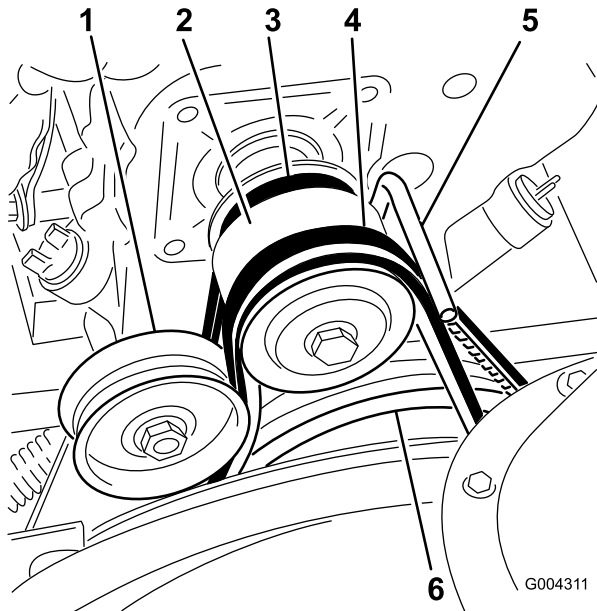

Figure 38
3. Loosen the belt guide (Figure 38).
4. Remove the auger/impeller drive belt from the engine pulley and the large auger/impeller pulley (Figure 38).
9. Remove the traction drive belt from the engine pulley and the large traction pulley (Figure 38).
11. Loop the belt over the engine pulley, ensuring that the belt is on the inside of the belt guide (Figure 38).
16. Install the auger/impeller drive belt around the large auger/impeller pulley and engine pulley, ensuring that the belt is on the inside of the idler pulley and the belt guide (Figure 38).
2. Loosen the belt guide (Figure 38).
3. Remove the auger/impeller drive belt from the engine pulley and the large auger/impeller pulley (Figure 38).
4. Install a new belt around the large auger/impeller pulley (Figure 38).
5. Loop the belt over the engine pulley, ensuring that the belt is on the inside of the idler pulley and the belt guide (Figure 38).